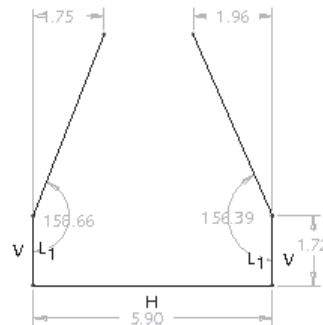
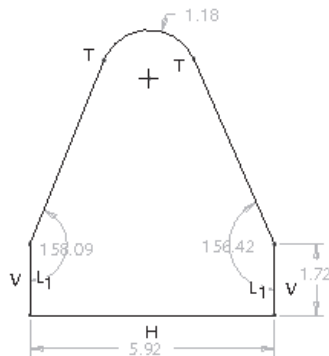

Figure 2-24 Partial sketch with weak dimensions
Figure 2-25 Sketch with arc
- d. Draw an arc and a circle, refer to Figures 2-25 and 2-26.
Figure 2-24 shows the lines that you have drawn. Notice that when you end the line creation by pressing the middle mouse button twice, all the constraints that you have drawn become visible, as shown in Figure 2-24. Now, you need to draw the arc and the circle.
The horizontal constraint **H** and the vertical constraint **V** appear in yellow color. The yellow color of the constraint indicates that this constraint is strong. This means you cannot change the orientation of the line until you delete the constraint that is applied on the line. The constraints displayed in grey color indicates that they are weak constraints, refer to Figure 2-24.
4. As the tangent constraint appears, click to end the arc creation. You will notice that the tangent constraint with a symbol **T** appears at the endpoints of the arc, as shown in Figure 2-25. Press the middle mouse button to end the arc creation.
Note that in Figure 2-24, there are some weak dimensions that are not displayed in Figure 2-25. This is because the weak dimensions get deleted without confirming their deletion. Hence, after drawing the arc, some weak dimensions get deleted automatically.